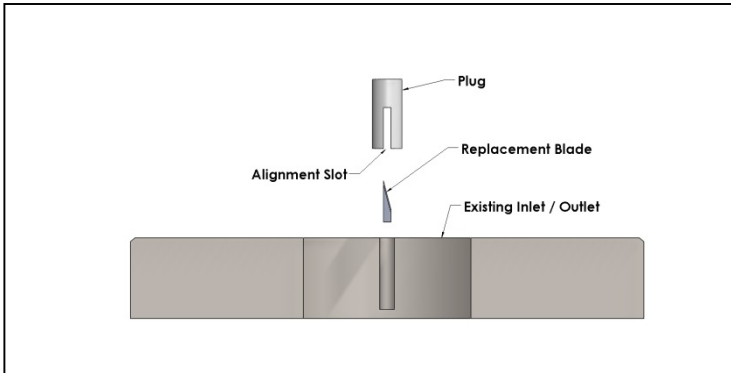

FIGURE 1.3
- 7) Remove the three (3) teflon plugs from their packaging. The plugs must be aligned as shown in FIGURE 1.3.